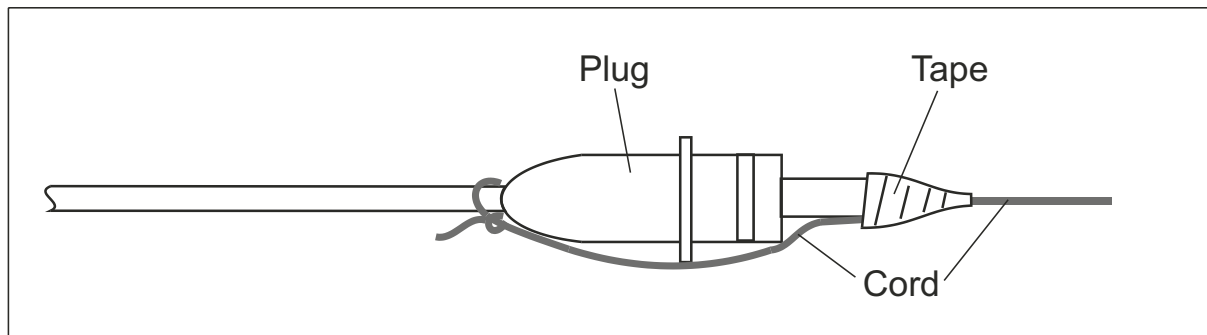

Fig. 6-6 Secure the plug to the cord in line
- c) Tie the cord to the 'T' piece cable and use adhesive tape to secure the plug to the cord in line (Fig. 6-6). Pull the cable through the flexible conduit.
- d) Tie the cord to the actuator cable and use adhesive tape to secure the plug to the cord in line (Fig. 6-6). Pull the cable through the flexible conduit.